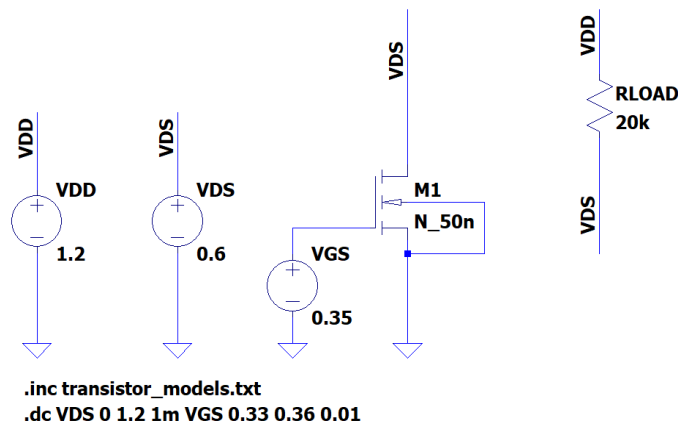
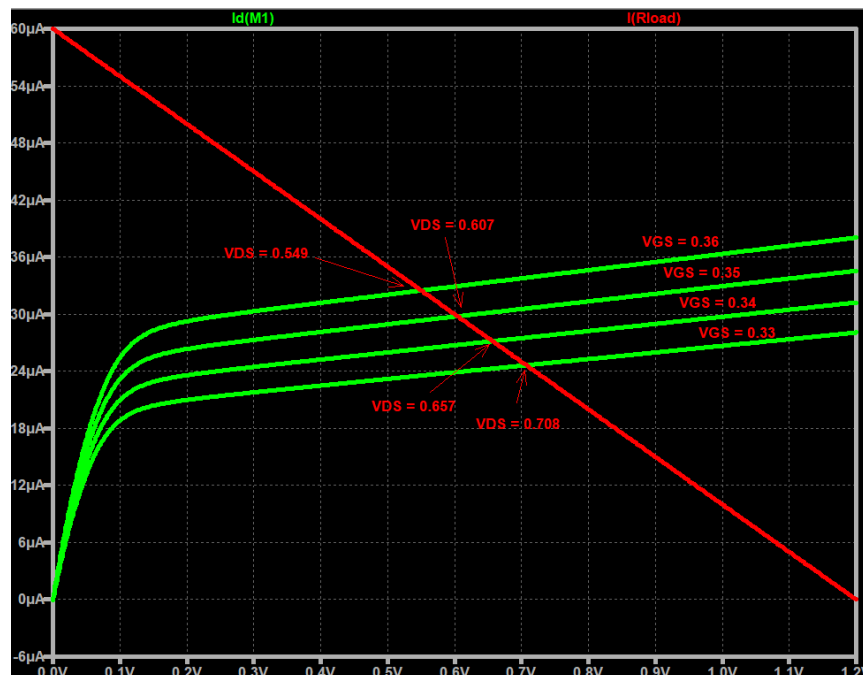

Figure 4.1 Schematic for Plotting Load Line Analysis for CS Amplifier with Resistive Load
Figure 4.2 Load Line Analysis for Figure 2.9
There's another method for analyzing and observing how V_{OUT} moves when we vary V_{IN} . For the CS amplifier that uses a resistive load R_L , we have $V_{OUT} = V_{DD} - I_{DS} \cdot R_L$. This equation consists of two components: (1) the KVL $V_{OUT} = V_{DD} - I_L \cdot R_L$ where I_L is the current that goes through the resistor, and (2) the current $I_L = I_{DS}$ where I_{DS} is the transistor current. From our previous math courses, a solution exists if there is an intersection between two lines. For the CS amplifier with resistive load, the corresponding V_{OUT} is simply the intersection where both the KVL equation and the transistor current equation. We can analyze this using the *load line analysis* method where we plot I_{DS} and I_L separately. Consider Figure 4.1 which shows our CS amplifier but with the transistor and resistor components separated from each other. You can open the schematic “lab06_loadline_res.asc” and run the simulation. Simply plot the drain current and the resistor current. You should be able to obtain Figure 4.2. Take note that the simulation runs on a 50 nm NMOS transistor with $W = 10 \mu m$ and $L = 1 \mu m$.